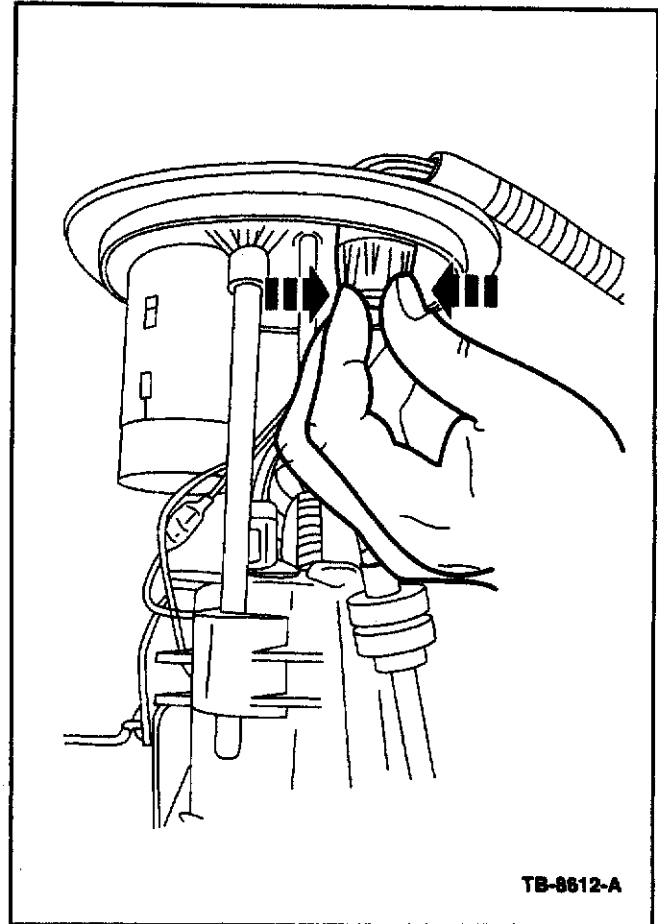

Figure 3 - Article 06-17-10
6. Remove wiring harness from the fuel pump assembly flange by depressing the retaining fingers on the harness connector at bottom of flange and pushing upward out of flange (Figure 3).